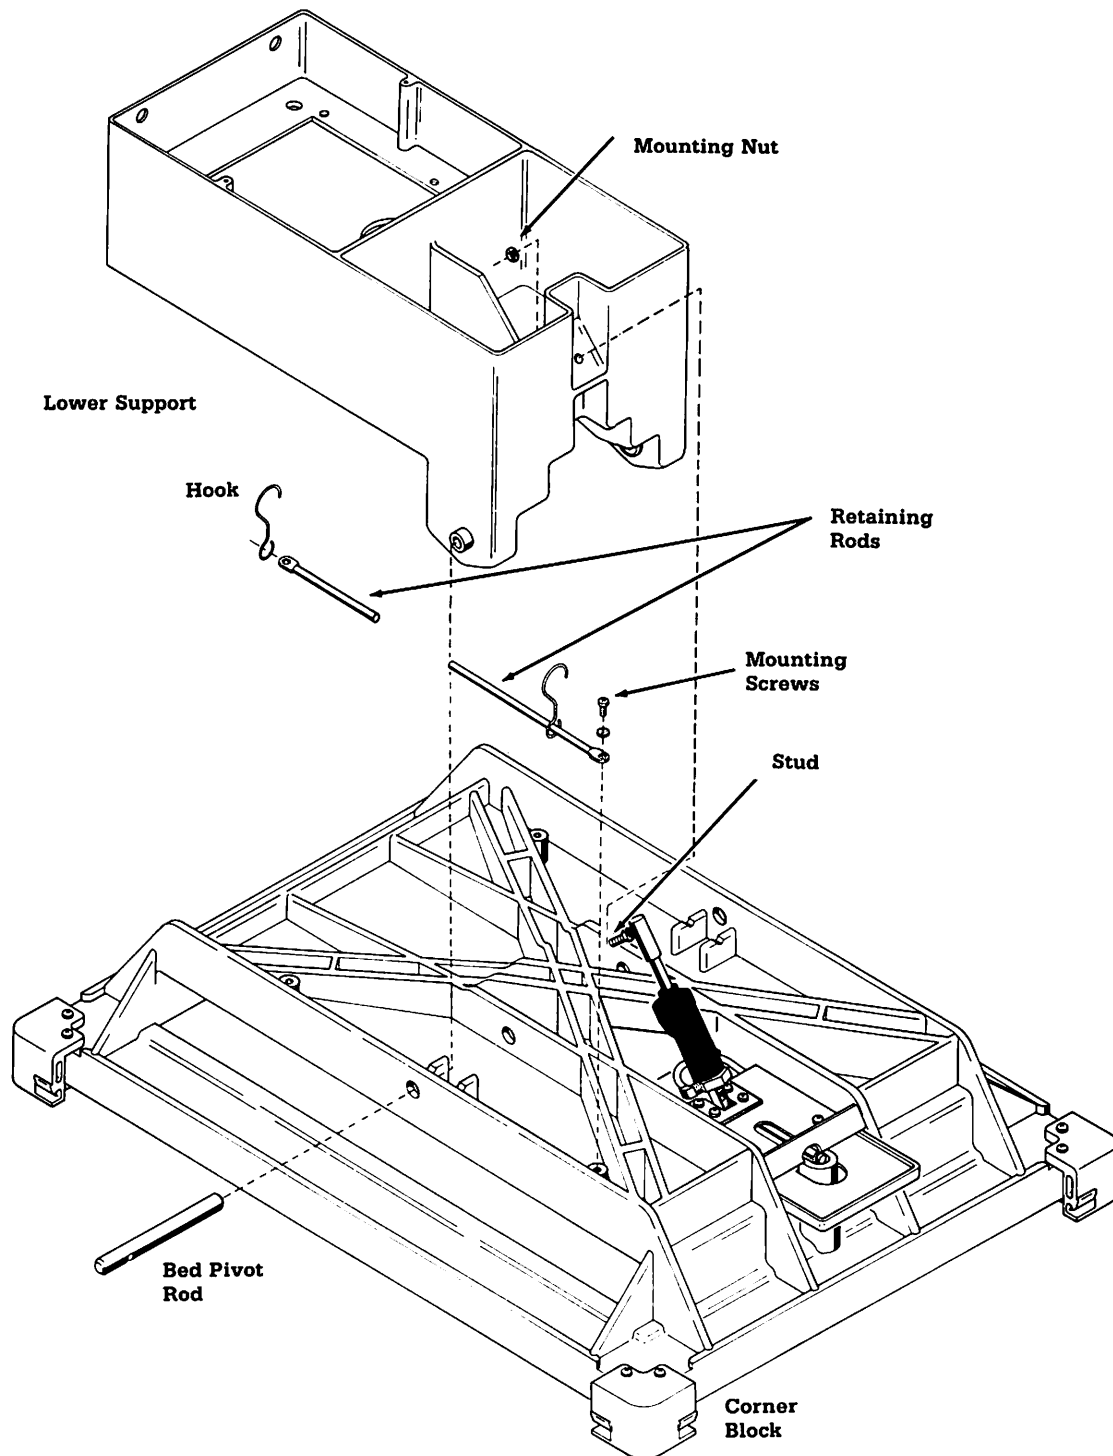

Figure 5-12. Bed Platform Assembly
C. Bed Platform Disassembly (Figure 5-12)
D. Bed Platform Assembly (Figure 5-12)